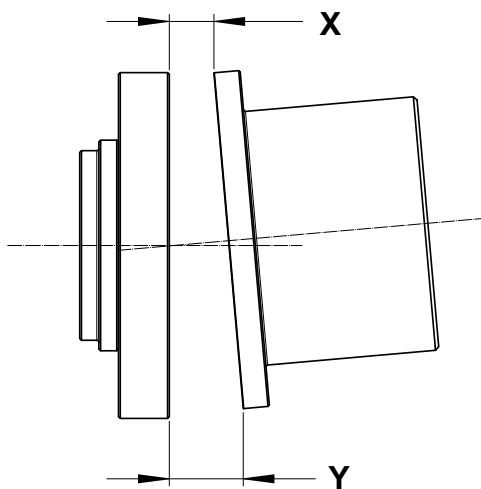
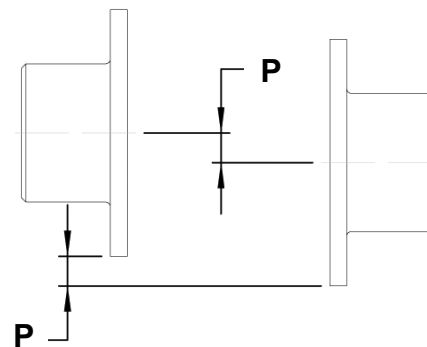

Figure 8 - Angular Misalignment
Figure 9 - Parallel Misalignment
Table 3 shows installation limits for Angular and Parallel alignment. The Angular Alignment Total Indicator Reading value is the maximum difference between the measurements (X-Y) taken between opposite sides of the center spool flange and adapter flange as shown in Figure 8. The Parallel Alignment value “P” is the offset between the centers of the hubs, as shown in Figure 9. If parallel offset is measured by rotating the hubs with a dial indicator on the outside diameter, the total indicated reading should be divided by (2) to calculate “P”.
a. The Angular Misalignment value is the maximum difference between the measurements X and Y taken at opposite ends of the hub flanges, as shown in Figure 8.
b. The Parallel Misalignment value "P" is the offset between the centers of the hubs, as shown in Figure 9.